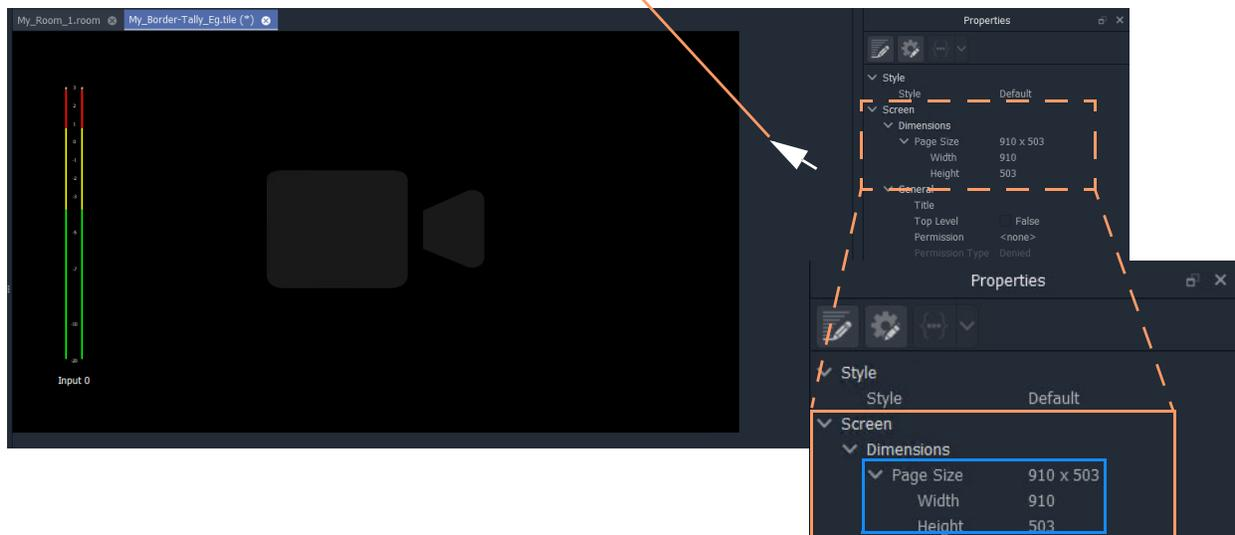

Fig. 9-23: Tile Size in Properties
- 3 Click off the Tile but in the **Tile Editor** stage area. See Figure 9-23.
In the example in Figure 9-23, the **Custom Tile**'s dimensions are: